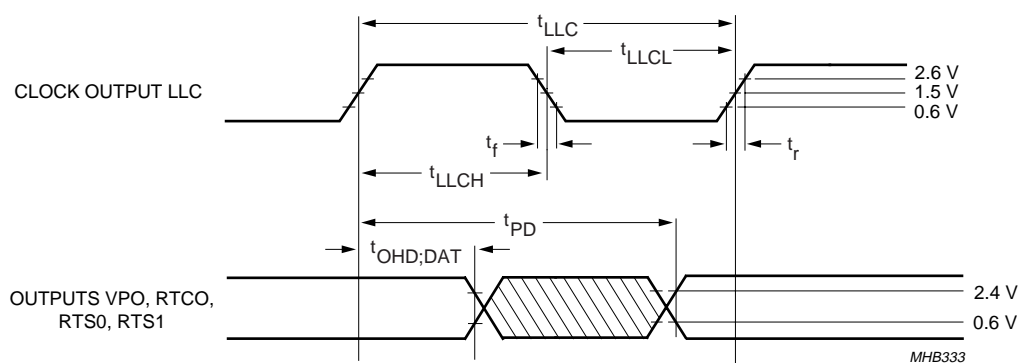

Fig.26 Clock/data output timing.
2. The effects of rise and fall times are included in the calculation of  $t_{OHD,DAT}$ ,  $t_{PD}$  and  $t_{PDZ}$ . Timings and levels refer to drawings and conditions illustrated in Fig.26.